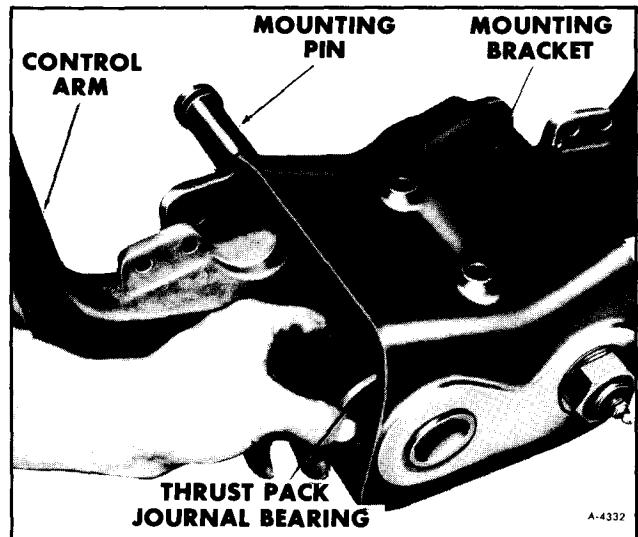

Figure 63—Installing Thrust Bearings
2. Place control arm in position in mounting bracket. Position thrust pack journal bearing between control arm and mounting bracket. (See figure 63).